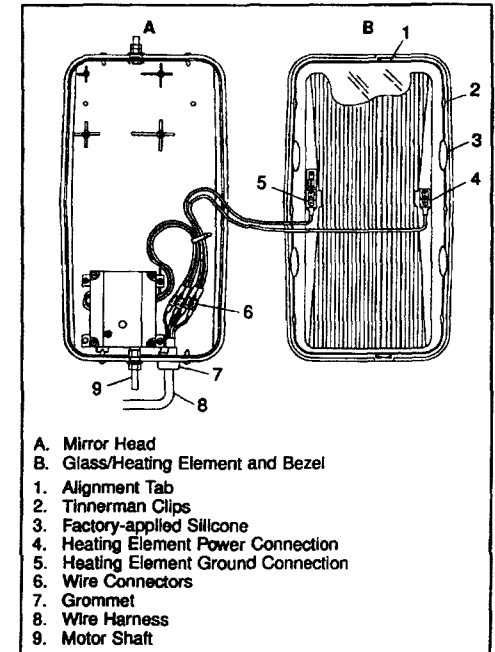
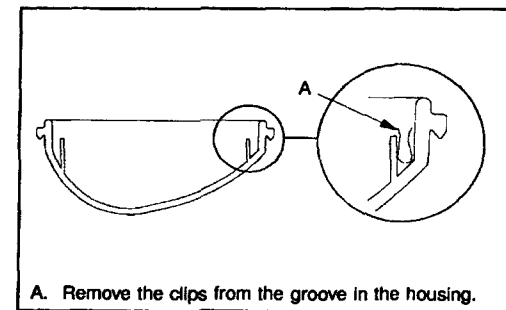

Fig. 10
Fig. 11
4. Use your hands to carefully separate the bezel and glass assembly from the mirror housing. The plastic bezel is held in the housing by six Tinnerman clips in the internal groove along the rear edge of the mirror housing. See Fig. 10 and 11.
1. Remove any Tinnerman clips left in the groove in the housing or on the bezel. See Fig. 11. Install new clips in the six locations on the bezel shown in Fig. 10.